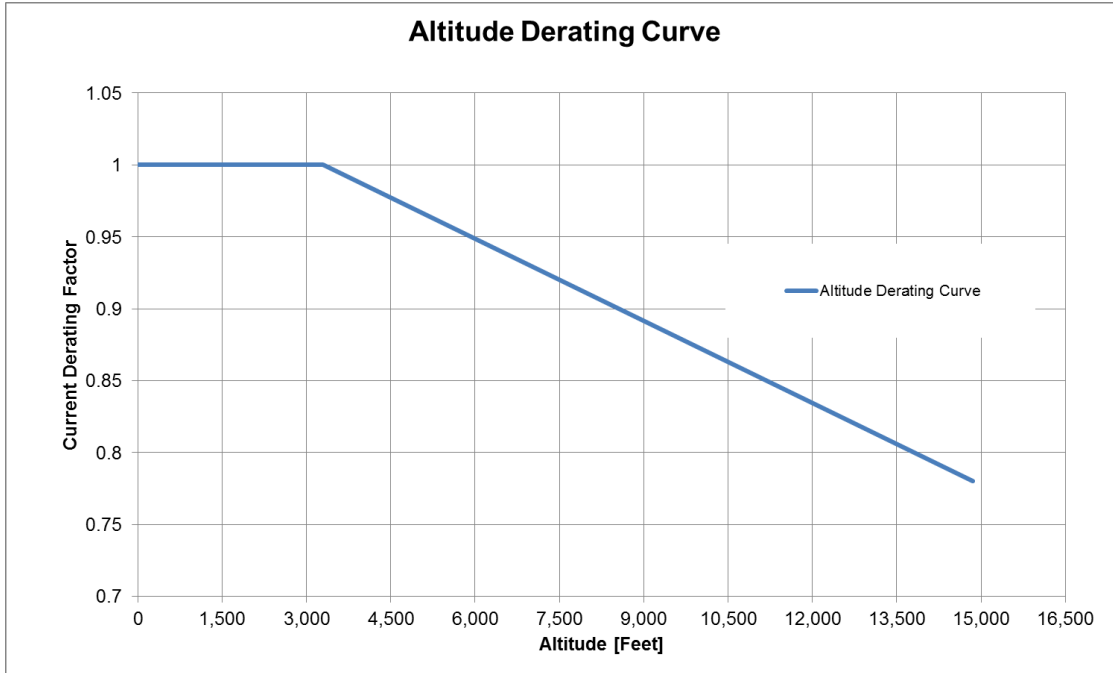

Figure 3-3: Altitude Derating Curve
- Altitude:** 3,300 feet above sea level without derating. See Figure 3-3: Altitude Derating Curve (p8) for derating curve.